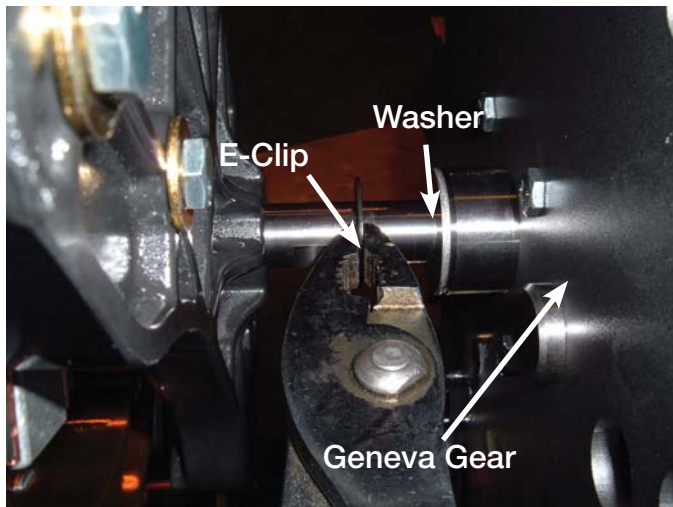

Figure 5.
9. Pull the main shaft out about 1 inch from the phenolic panel side of the tap changer. Use a rubber mallet to tap the main shaft through the metal panel if necessary. Now remove the E-clip from the main shaft with a pliers so the main shaft can be pulled out through the phenolic panel. To prevent the washer from falling off the shaft while removing the geneva gear, slide the washer toward the movable contact board (refer to Figure 5). Hold the geneva gear and pull the shaft out of the geneva gear hub only as far as needed to remove the geneva gear. Remove the geneva gear. Remove the washer from the shaft and then remove the shaft completely. If the shaft can not be pulled out completely because it is bumping into the reactor coils, unscrew and remove the white cap from the shaft to allow for shaft removal.